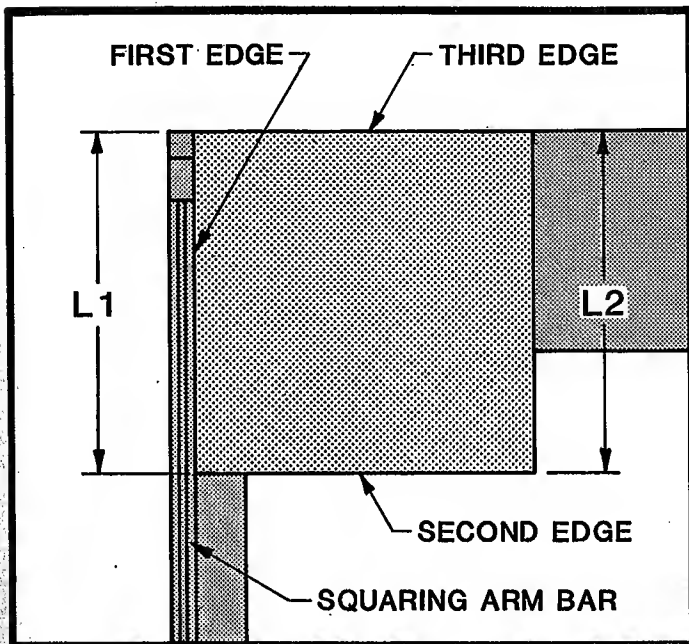
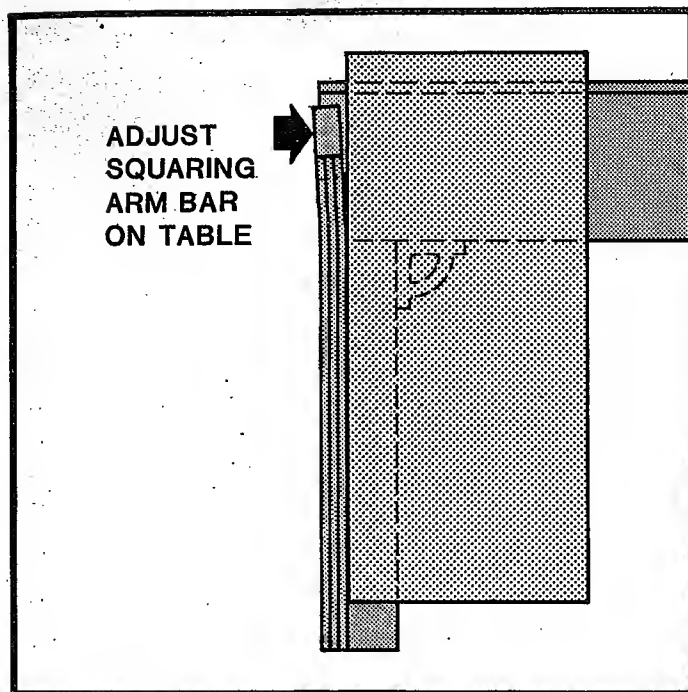
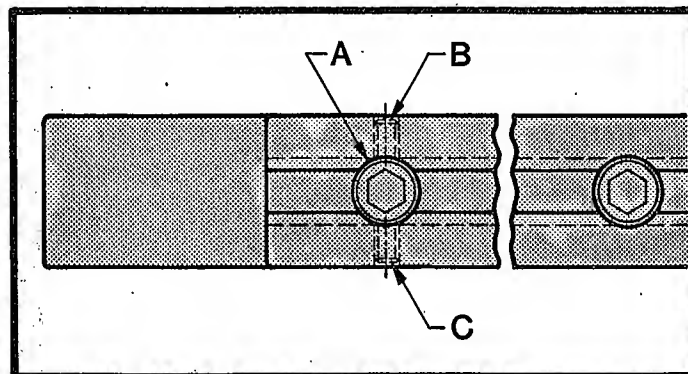

FIGURE 92
FIGURE 95
FIGURE 96
4. Measure distances L1 and L2 (Figure 92) with a tape measure. If they are not the same length, loosen front socket head screw "A" (Figure 96) and either set screw "B" or "C". If L1 is longer, loosen set screw "C" and tighten screw "B" to move squaring arm bar towards sheet. If L2 is longer, loosen screw "B" and tighten screw "C" to move bar away from sheet. Tighten screw "A" and either screw "B" or "C".
- C. Sheet lays on table and against the squaring arm bar as shown in Figure 95.
1. Move end of squaring arm bar on table to left or right as shown in Figure 95. To adjust, loosen front socket head screw "A" (Figure 96) and either socket set screw "B" or "C" in side of squaring arm bar. Then use opposite set screw "B" or "C" to move squaring arm bar flush with sheared edge of sheet. Tighten screw "A" and the loosened screw "B" or "C". Remove the full length sheet.